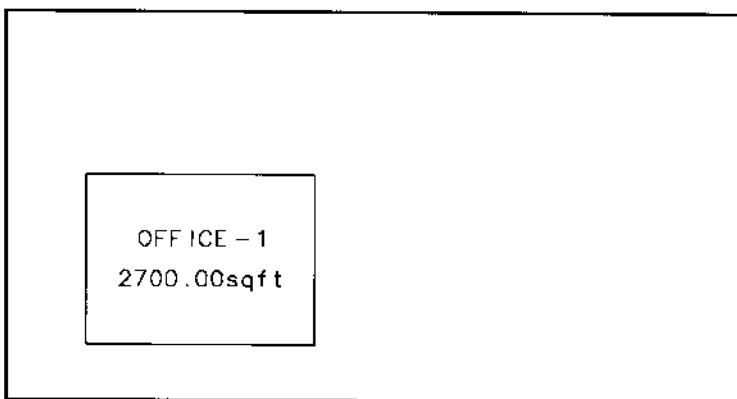

Figure 22.
- > Pick insertion point: [pick a location as shown In Figure 22]